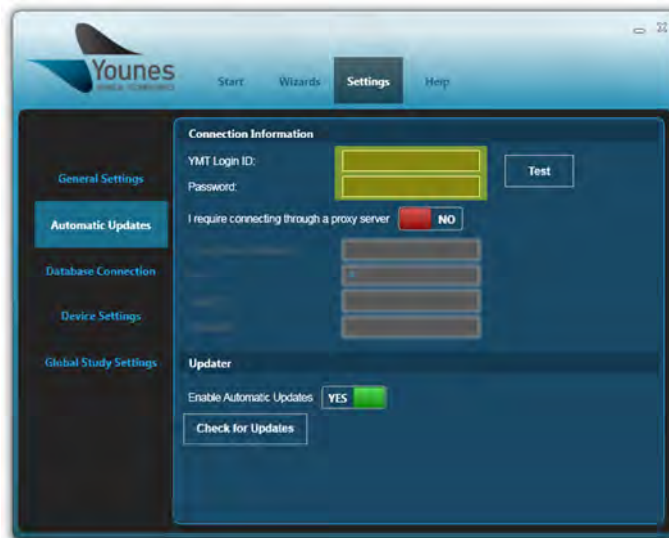

Figure 57 – Windows PC Prodigy Application Login Screen
3. Enter the YMT Login ID and password provided by YMT in the black boxes highlighted in Figure 57.
If your facility utilizes a proxy server, click on the “No” button in Figure 57. Upon clicking “No,” the button will change to “Yes” and additional information will become available, as shown in Figure 58.